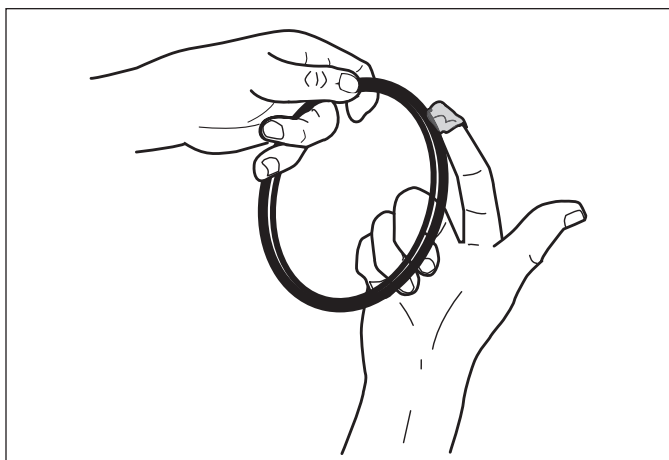

Figure 9. Lubricating O-Rings
6. Lubricate all O-rings with a food-grade silicone lubricant (Figure 9). Apply a light coating of lubricant to the inside center tube at both ends of the new cartridge.